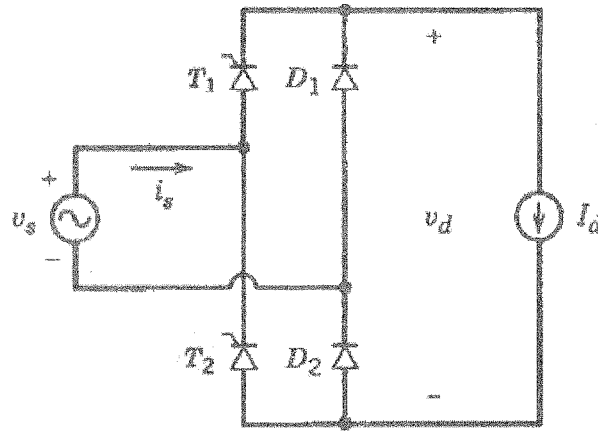

Figure Q1b
- b) A circuit configuration for a single-phase, half-controlled converter is shown in Figure Q1b. The ac side voltage $v_s = \sqrt{2} V_s \sin \omega t$. It has a constant dc load current I_d in the dc side. The delay angle of the thyristors is α ($0^\circ < \alpha < 180^\circ$). Assume that the diodes and the thyristors in the circuit have ideal characteristics.